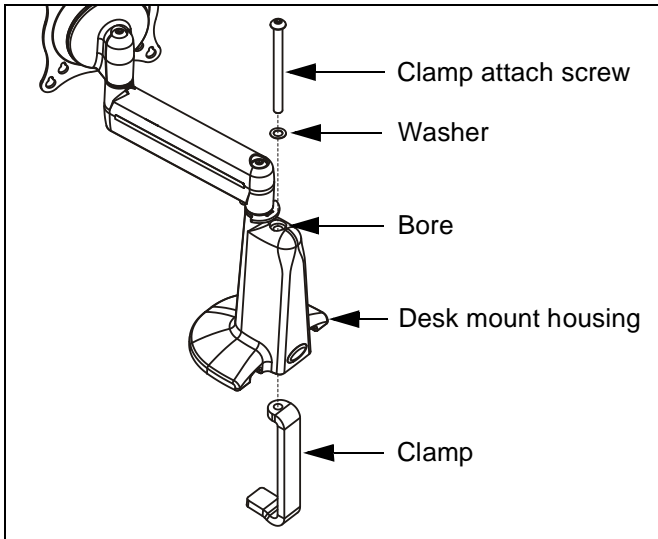

Figure 4: Remove Clamp
4. Remove clamp attach screw, washer, and clamp from desk mount housing (See Figure 4).